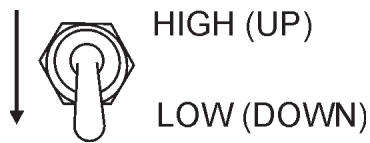

Figure 41. Engine Speed Switch (Low)
6. Set engine speed switch to "**LOW**" (Figure 41).